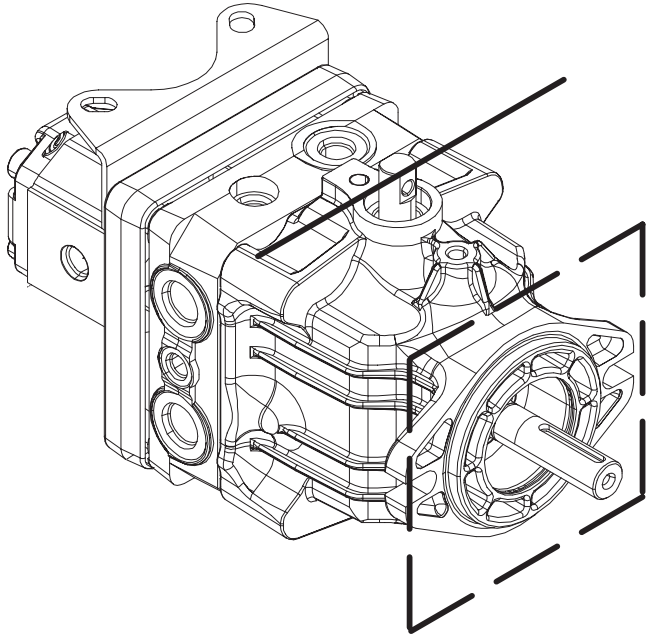

Figure 15
- The pump is in neutral when the flats of the trunnion shaft are aligned parallel to the mounting flange as shown in figure 15.